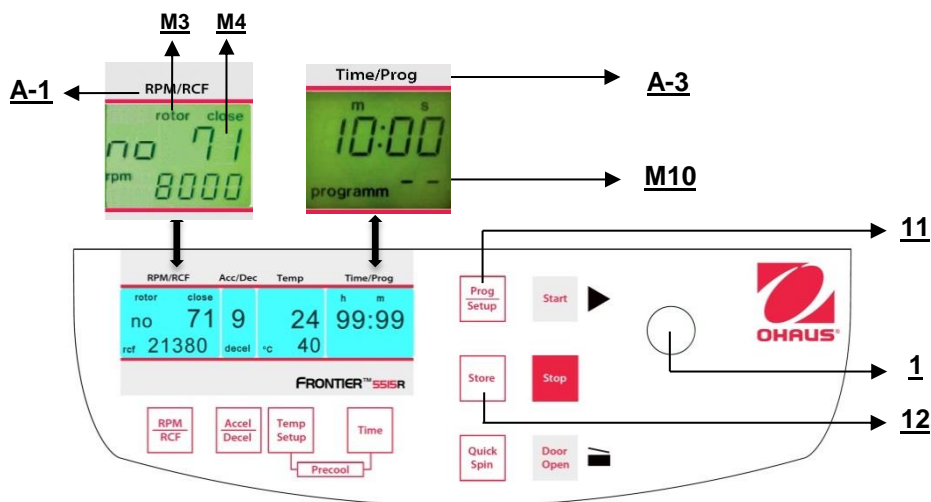

Figure. 25
To recall stored programs press the key "Prog/Setup" (11) (refer to figure 25) while the lid is already closed. Inside the display "Time/Prog" (A-3), "programm –" (M10) appears. The desired program number can be pre-selected with the adjusting knob (1).
To leave the program mode just press the key **"Prog/Setup"** (11) (refer to figure 25). Then inside the display **"Time/Prog"** the word **"programm"** appears.